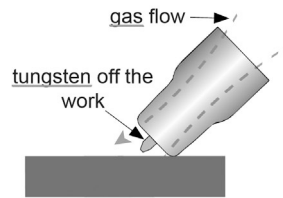

Fig. 14
4. With a small movement rotate the Gas Cup forward so that the Tungsten Electrode touches the workpiece (Fig. 14 and 15).